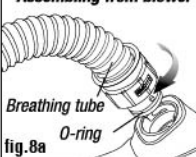

fig.8a
- Always inspect the PAPR end of the breathing tube to confirm the rubber O-ring is in place, see fig.8a. Replace if missing or damaged.
Insert the two prongs on the breathing tube into the blower unit and face shield air duct (See fig.7), twist 1/4 to the anti-"open" direction (See fig.8a).